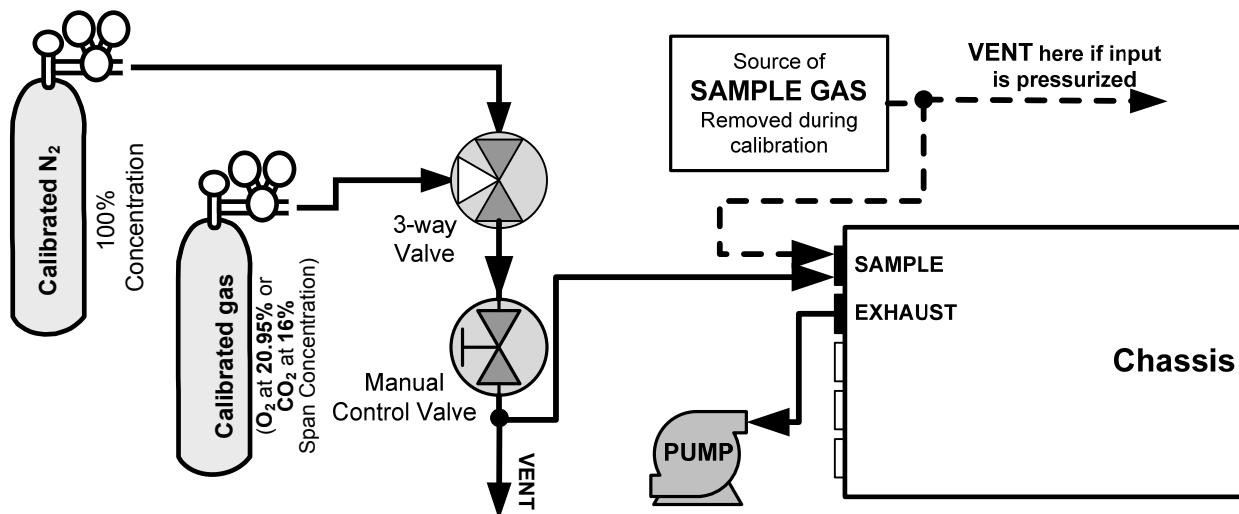

Figure 3-16: Pneumatic Connections, Using Bottled Span Gas
- In applications where the sample gas is received from a pressurized manifold, a vent must be placed on the sample gas before it enters the analyzer. Please refer to Figure 3-16.
The span gas, zero air supply and sample gas (if pressurized) line MUST be vented (Figure 3-16) for two reasons: in order to ensure that the gases input do not exceed the maximum inlet pressure of the analyzer, and to prevent back diffusion and pressure effects. These vents should be: